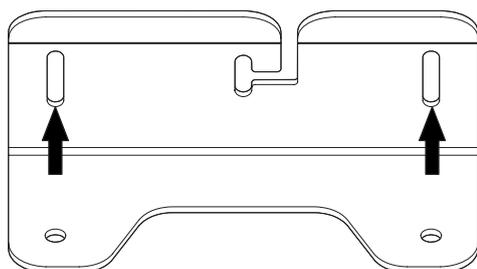

Fig. 79 Elongated holes of angle bracket
16. Lift the operator with angle bracket (Fig. 79) using the lift truck until the underside of the elongated
holes (Fig. 79) is reached. Do not lift the operator directly with the lifting truck but place a wooden block, for example, between the support surfaces.